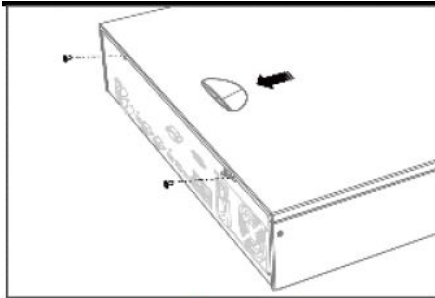

Figure 2-4 Remove Cover
STEP 1 Unfasten the screws on the back, and push the cover backward to remove the cover. Refer to Figure 2-4.